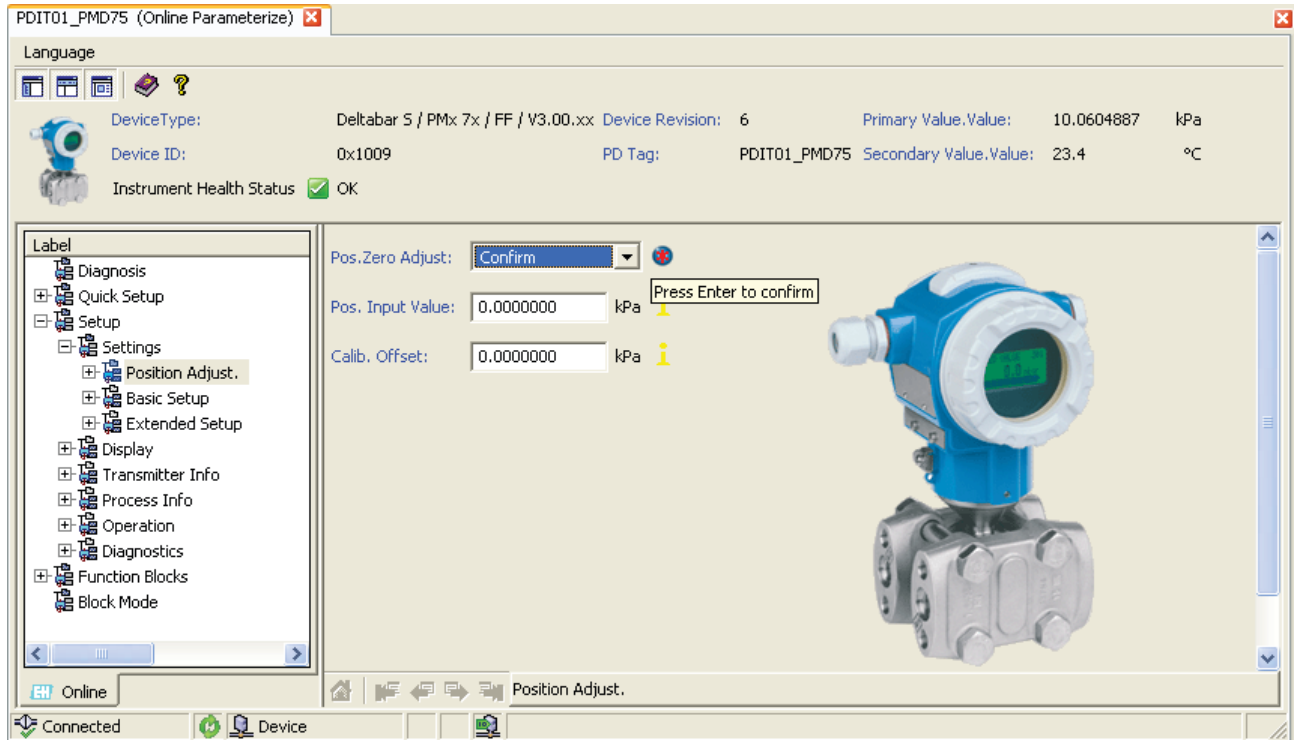

Figure 2-24. Position Adjust screen.
40. Go to *Setup ► Settings ► Position Adjust.* as shown in Figure 2-24. Select *Confirm* under *Pos. Zero Adjust* and press *Enter* to set the new zero.